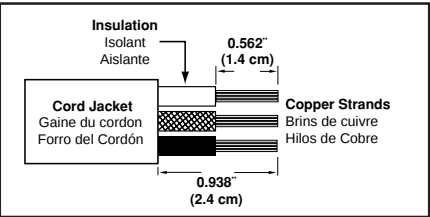

Fig. 1 / Fig. 1 / Illustration 1
- Strip cord jacket 0.938" (2.4 cm). Strip insulation to expose 0.562" (1.4 cm) bare copper at the end of each conductor as shown in **Fig. 1** or per strip gage on device.
- Reattach the wired device module to the housing by aligning key guide on the module to the key on the housing. Tighten the three (3) assembly screws.
- Pele el forro del cordón 2.4 cm (0.938"). Pele cada conductor para exponer 1.4 cm (0.562") de alambre, use la calibre de pelado descrito en el producto o en el **Fig. 1**.
For Figs. 1 and 2:
Para Figs. 1 y 2: